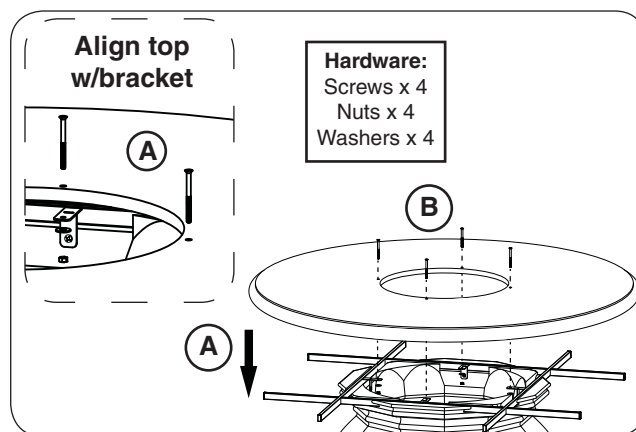

Fig. 20-3 Place top and fasten
4. **CAREFULLY** place the top on the unit, ensuring that the holes in the top piece align with the holes found in the bracket below (see Fig. 20-3, A).
5. Use a Phillips screwdriver and the supplied bolts (4), nuts (4), and washers (4) to fasten the top piece to the bracket as shown in Fig. 20-3, B.